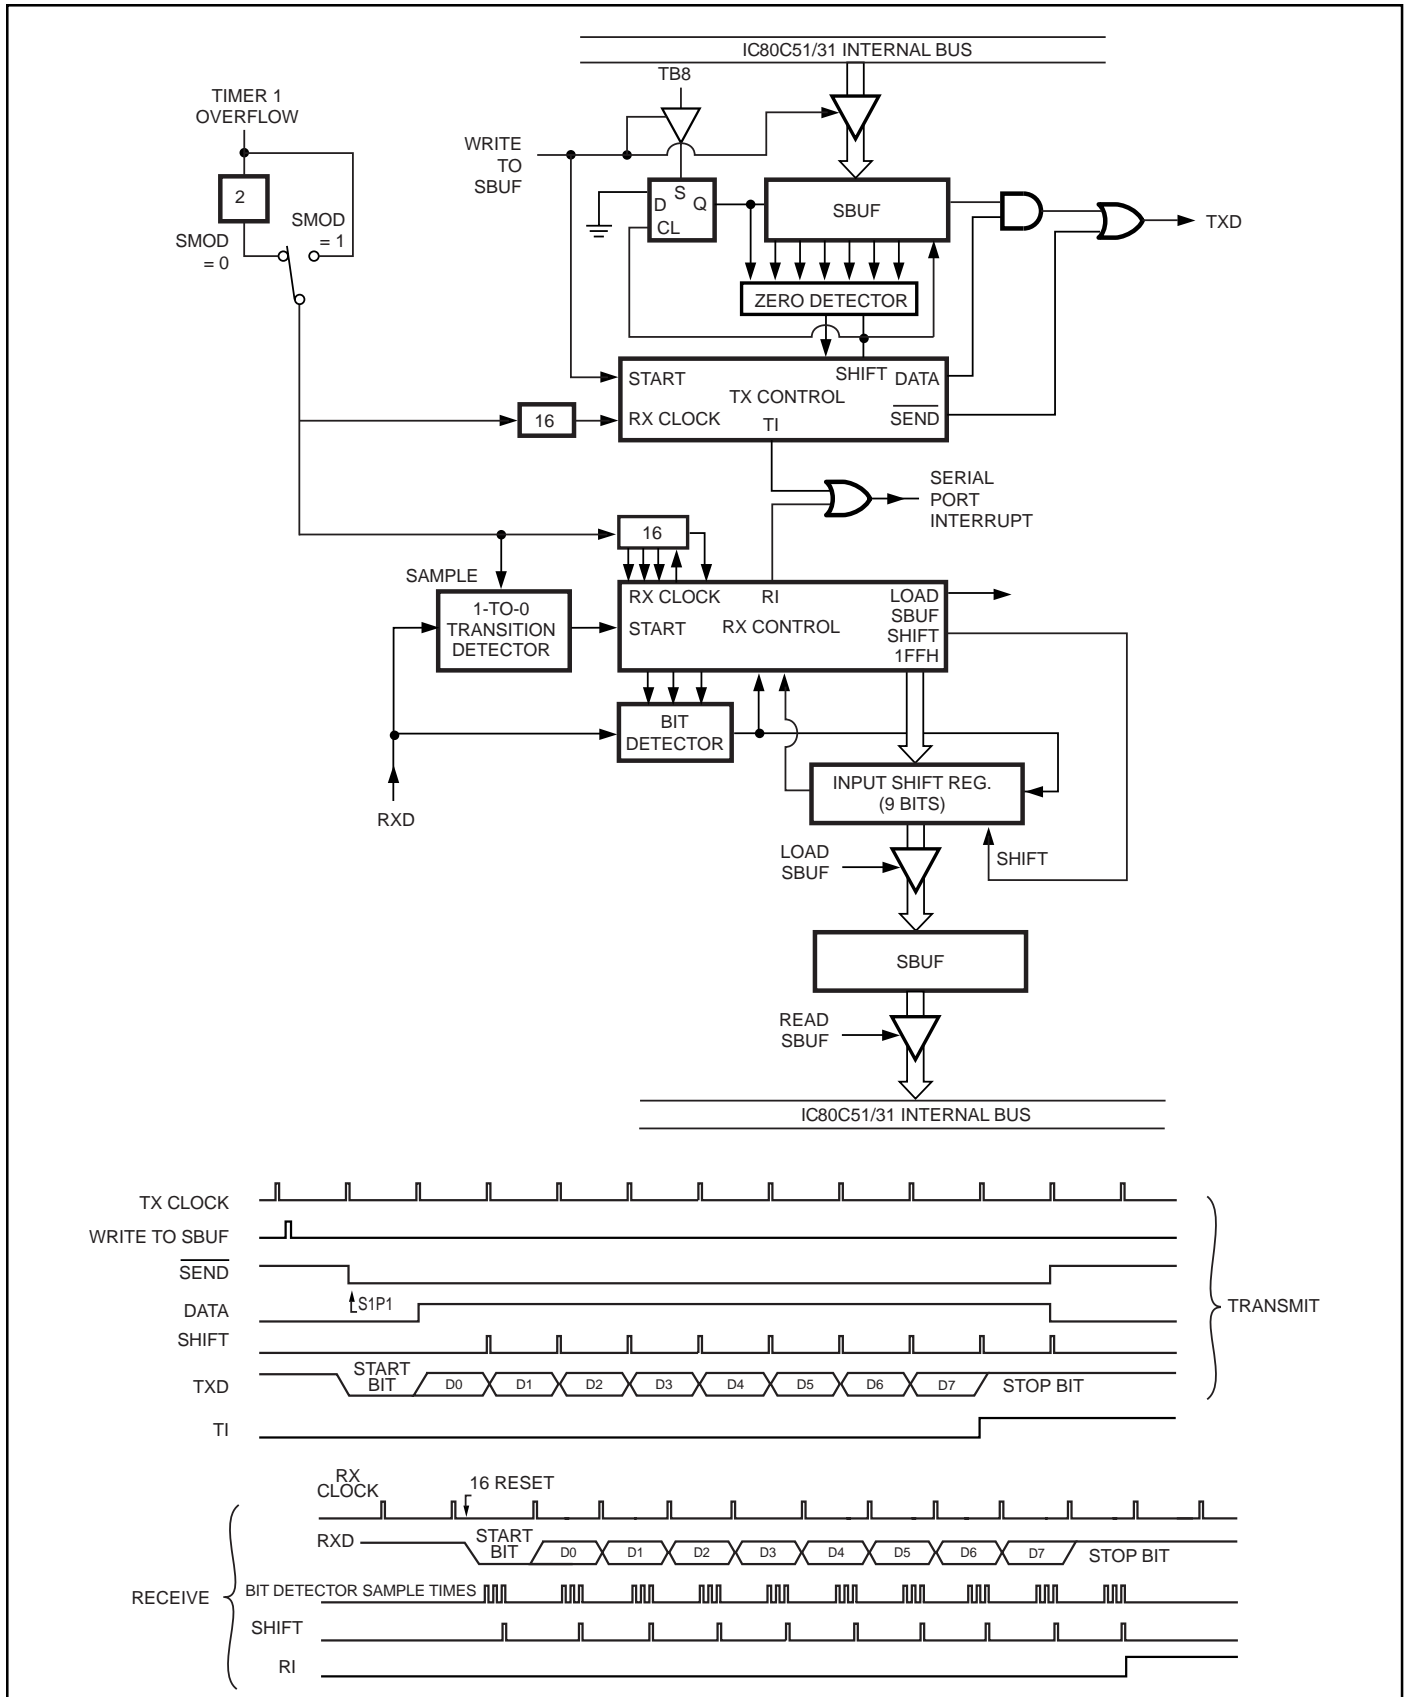

Figure 12. Serial Port Mode 1
Ten bits are transmitted (through TXD) or received (through RXD): a start bit (0), eight data bits (LSB first), and a stop bit (1). On receive, the stop bit goes into RB8 in Special Function Register SCON. The baud rate is variable (see Figure 12).